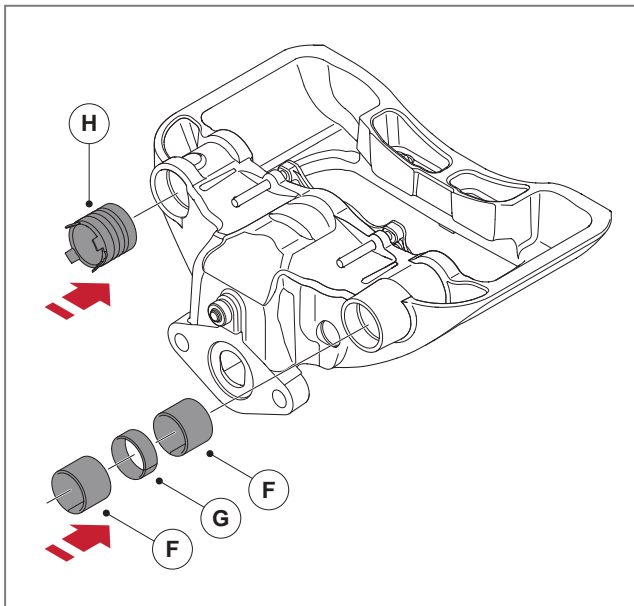

Fig. 65 - Installing the leading slide bearing and trailing side bushing
1. Carefully follow the steps below, step 2 and step 3, to fit the two bearing bushings (F) of the fixed bearing and spacer (G) as well as the composite bushing (H) of the floating bearing, see ► Fig. 65.